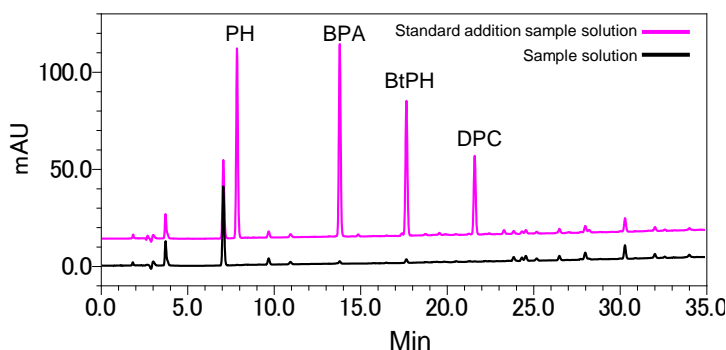

Figure 4 Chromatogram of Sample Solution
- ✓ The result obtained from the material test for PC containers showed that BPA (incl. PH and BtPH) was less than the specified standard and DPC was not detected (Figure 4, Table 3).
- ✓ When the recovery rates were determined by adding BPA, PH, BtPH and DPC at the concentration of 10 µg/mL each, the rates were found to be 99.6-103.8%, indicating good results (Figure 4, Table 3).